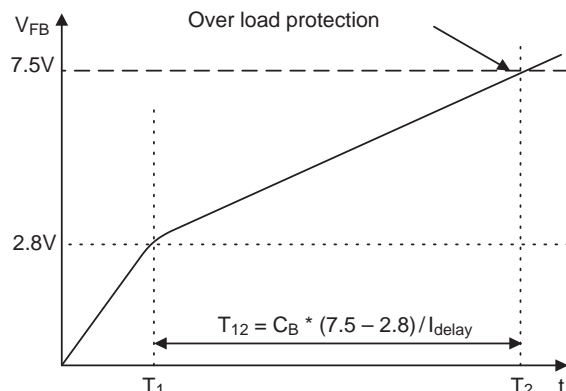

Figure 13. Over Load Protection
4.1 Over Load Protection (OLP): Overload is defined as the load current exceeding its normal level due to an unexpected abnormal event. In this situation, the protection circuit should trigger to protect the SMPS. However, even when the SMPS is in the normal operation, the over load protection circuit can be triggered during the load transition. To avoid this undesired operation, the over load protection circuit is designed to trigger after a specified time to determine whether it is a transient situation or an overload situation. Because of the pulse-by-pulse current limit capability, the maximum peak current through the SenseFET is limited, and therefore the maximum input power is restricted with a given input voltage. If the output consumes more than this maximum power, the output voltage (V_o) decreases below the set voltage. This reduces the current through the optocoupler LED, which also reduces the optocoupler transistor current, thus increasing the feedback voltage (V_{fb}). If V_{fb} exceeds 2.8V, D1 is blocked, and the $5\mu A$ current source starts to charge C_B slowly up to V_{CC} . In this condition, V_{fb} continues increasing until it reaches 7.5V, then the switching operation is terminated as shown in Figure 13. The delay time for shutdown is the time required to charge C_B from 2.8V to 7.5V with $5\mu A$. In general, a 20–50ms delay time is typical for most applications. OLP is implemented in auto restart mode.